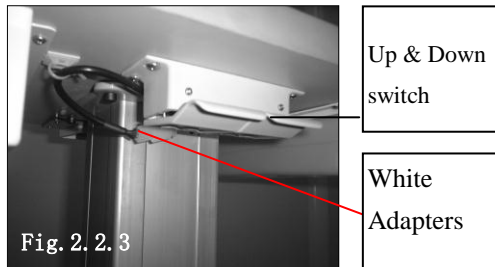

Fig2.2.2
5. Lift the tabletop to align its screw holes to the assembly holes of the instrument table. (Fig.2.2.2)
6. Fix the tabletop with the power switch facing to the operator. (Fig.2.2.2)